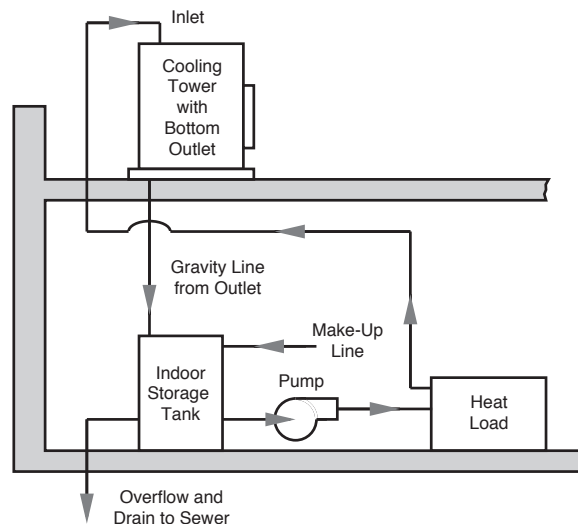

Figure 2
1. If your tower must operate during freezing weather, it is recommended that the tower be installed for gravity flow operation. See Figure 2.